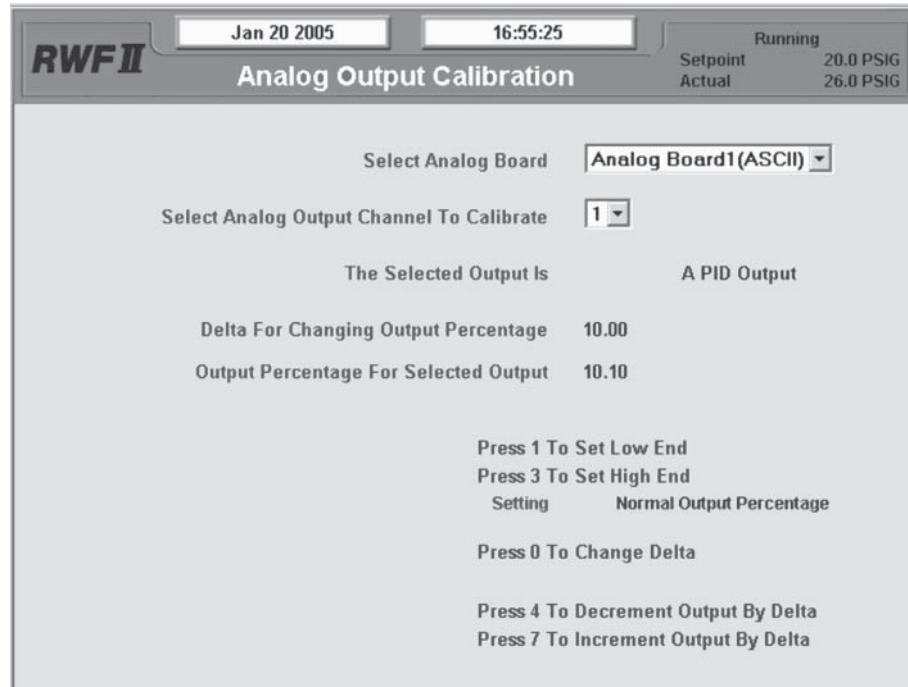

Figure 14
- Set operating session to Session 2 and go to the screen shown in Figure 14 by pressing **[Menu]** > **[Calibration]** > **[Analog Outputs]** > **[Output Calibration]**.